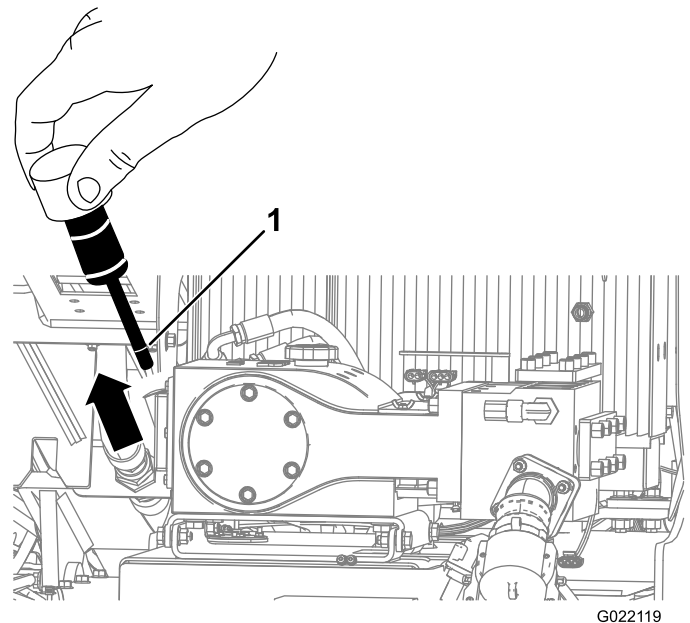
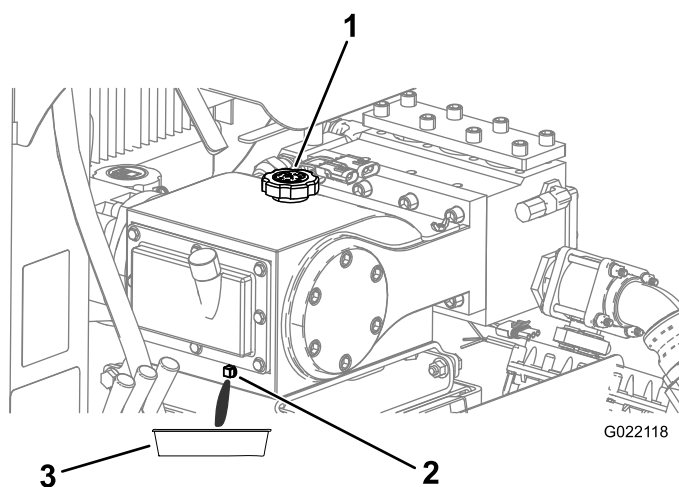

Figure 111
Figure 112
3. Remove the oil dipstick (Figure 111).
4. Ensure that the oil is at the oil-fill line as shown in Figure 111.
4. Remove the drain plug and place a drain pan under the drain-plug hole (Figure 112).
6. Allow all of the oil to drain from drain plug into the oil pan (Figure 112).
8. Remove the oil-filler cap (Figure 112) and add approximately 1.9 L (2 qt) of oil, or until the oil reaches the oil-fill line on the dipstick as shown in Figure 111.